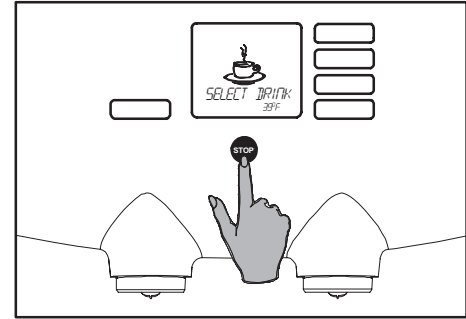

Fig. 14 Stop button
3. Press the stop button (fig. 14) to stop dispensing earlier, for example if you want the cup to be less full.
- The stop button can be pressed at any time to stop dispensing (fig. 14).